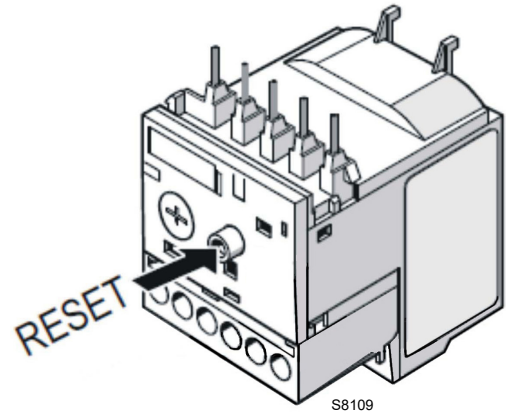

Fig. 24
- To reset, in the case of an intervention of the thermal relay, press the button “RESET” (Fig. 24).